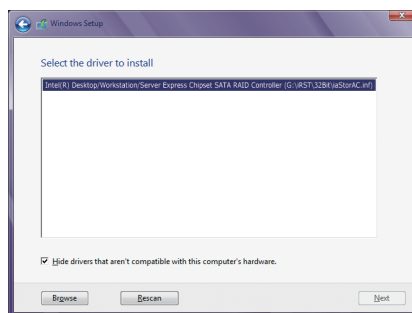

Figure 1
When a screen as shown in Figure 1 appears, select **Intel(R) Desktop/Workstation/Server Express Chipset SATA RAID Controller (D:\IRST\32Bit\PublicAC.inf)** and click **Next** to load the driver and continue the OS installation